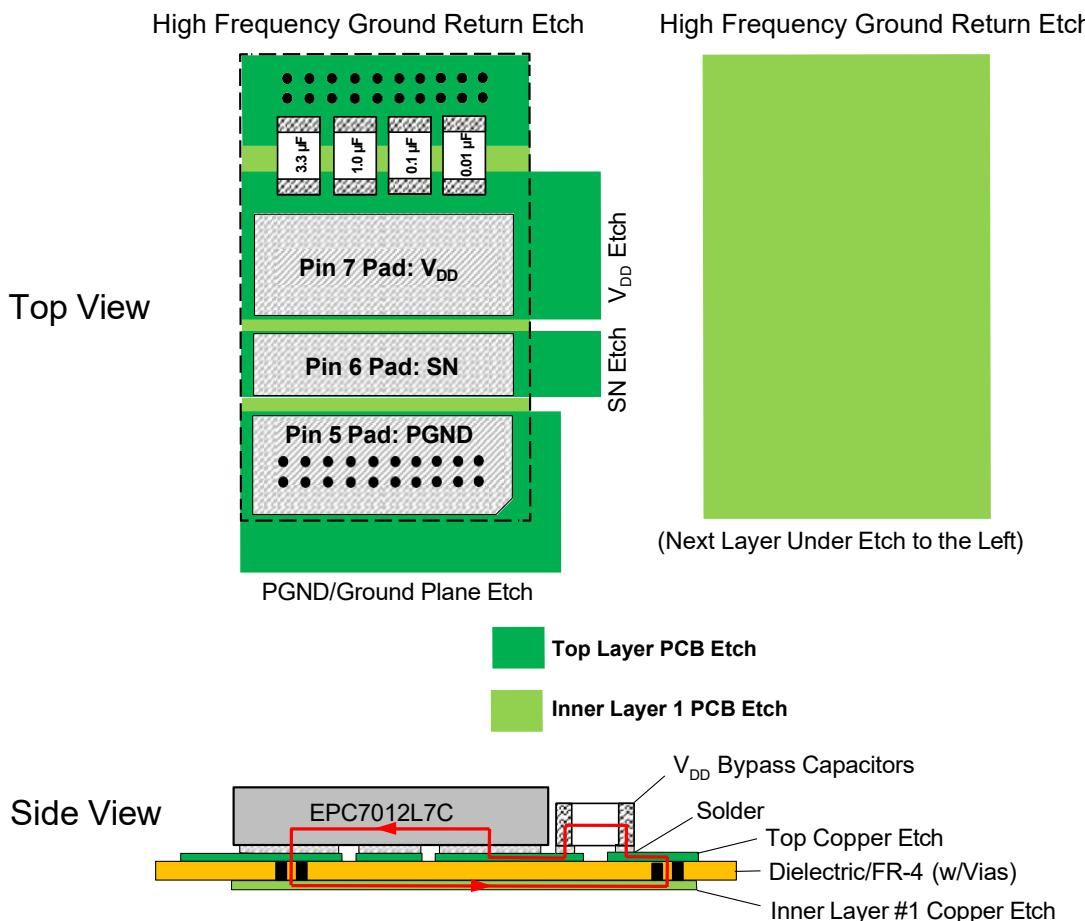

Figure 4. Recommended Optimum VDD-to-PGND Power Supply Bypass Capacitor Layout (Not to Scale)
Because of the extremely high slew-rate of voltage seen at the SN output it is recommended that a minimum of one (1) 3.3  $\mu$ F microfarad ceramic capacitor, one (1) 1.0 microfarad ceramic capacitor, one (1) 0.1 microfarad ceramic capacitor and one (1) 0.01 microfarad ceramic capacitor, all with sufficient voltage de-rating, be connected from VDD to PGND. All four of these capacitors should be low ESR types, if possible. It is strongly recommended that these capacitors have the smallest possible case sizes possible such that they inscribe the smallest possible loop area between VDD and PGND so as to minimize the inductance related to this loop area. Also, to reduce the inductive loop between VDD and PGND is strongly recommended that an induction loop cancellation layout of the high frequency power supply capacitors be employed. Figure 4 illustrates the recommended optimum layout and placement for the VDD-PGND high-frequency bypass capacitors.
It should be noted that in Figure 4 that the light green copper etch area on the PCB's inner layer #1 is positioned directly beneath the copper etch clad on the top layer, as indicated by the dashed line.